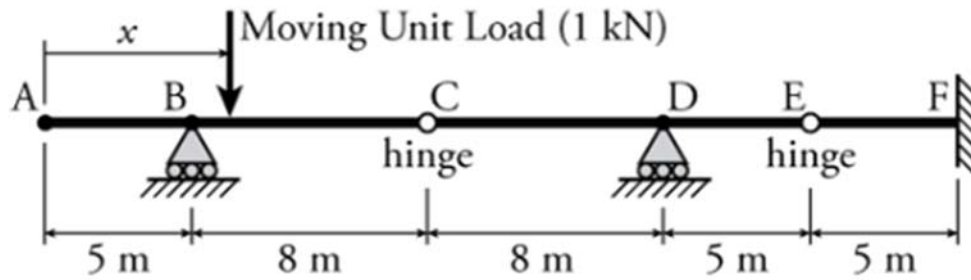

Fig.9
- a) By using Muller – Breslau’s principle Construct influence line diagram for the beam as shown in Fig 9.